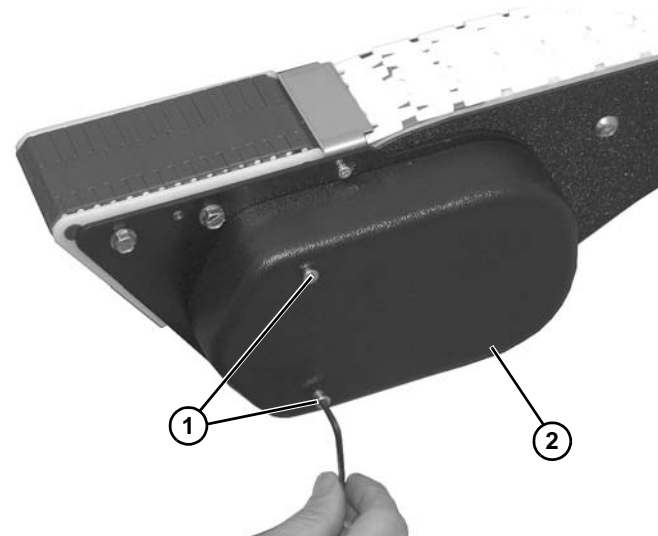

Figure 159
1. Remove two socket head screws (**Figure 159, item 1**) and cover (**Figure 159, item 2**) from power transfer assembly.